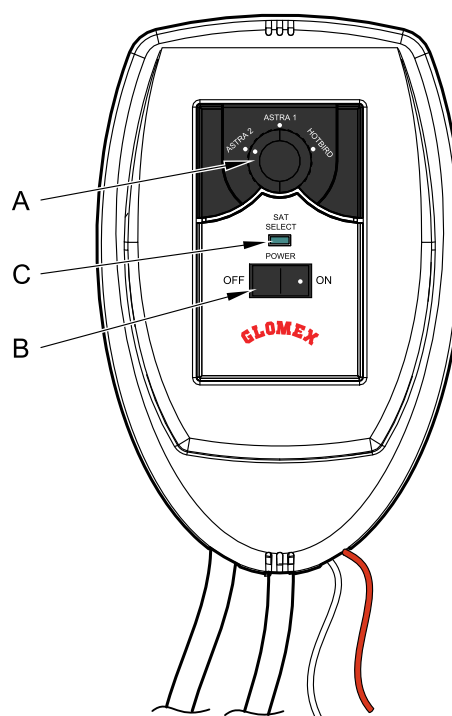

Fig. 25
5. Turn on the control unit (set B key, **Fig. 25**, to ON).